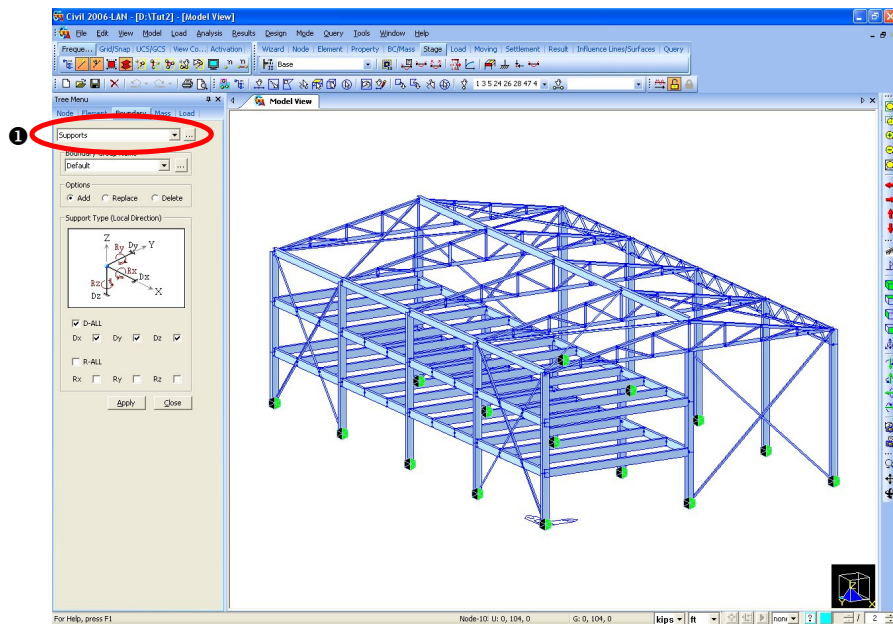

Figure 2.16 Data Entry of Support Conditions
1. Select the **Boundary** tab as shown in Fig.2.16–①.
7. Check (✓) “**D-ALL**” in the **Support Type** selection field.②
② When the coordinates of a node has been defined by Node Local Axis, the restraints are also defined with respect to the Node Coordinate.
1. Select the **Load** tab as shown in Fig.2.16–❶.